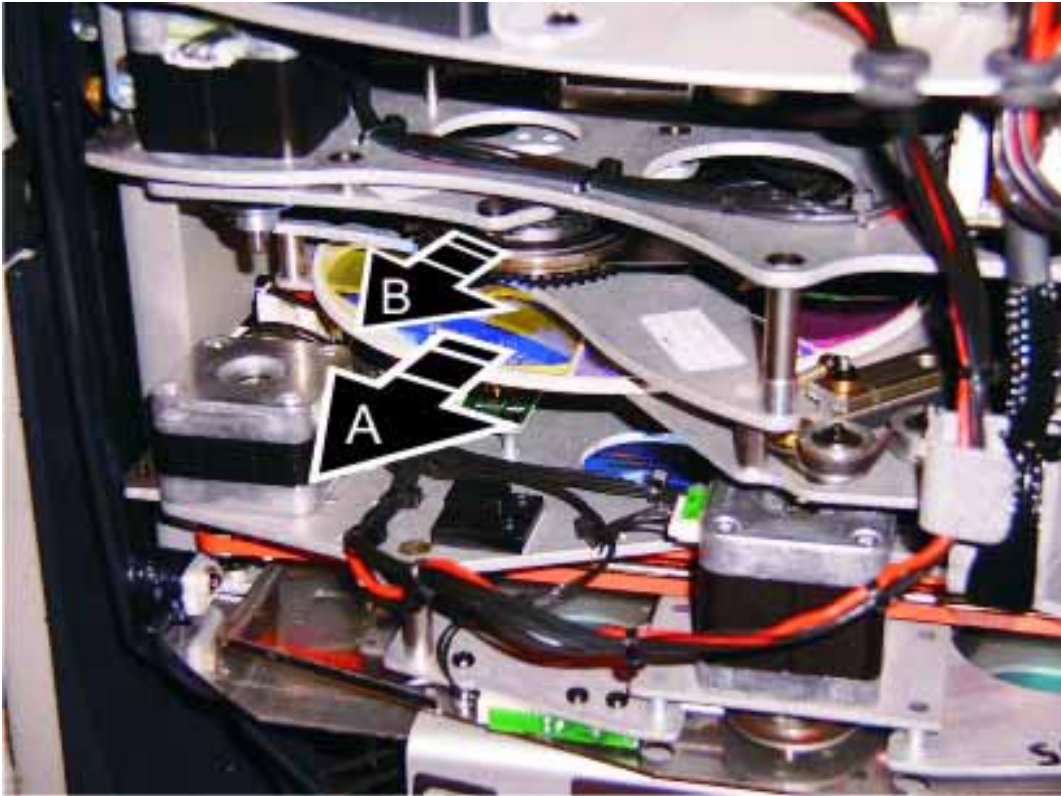
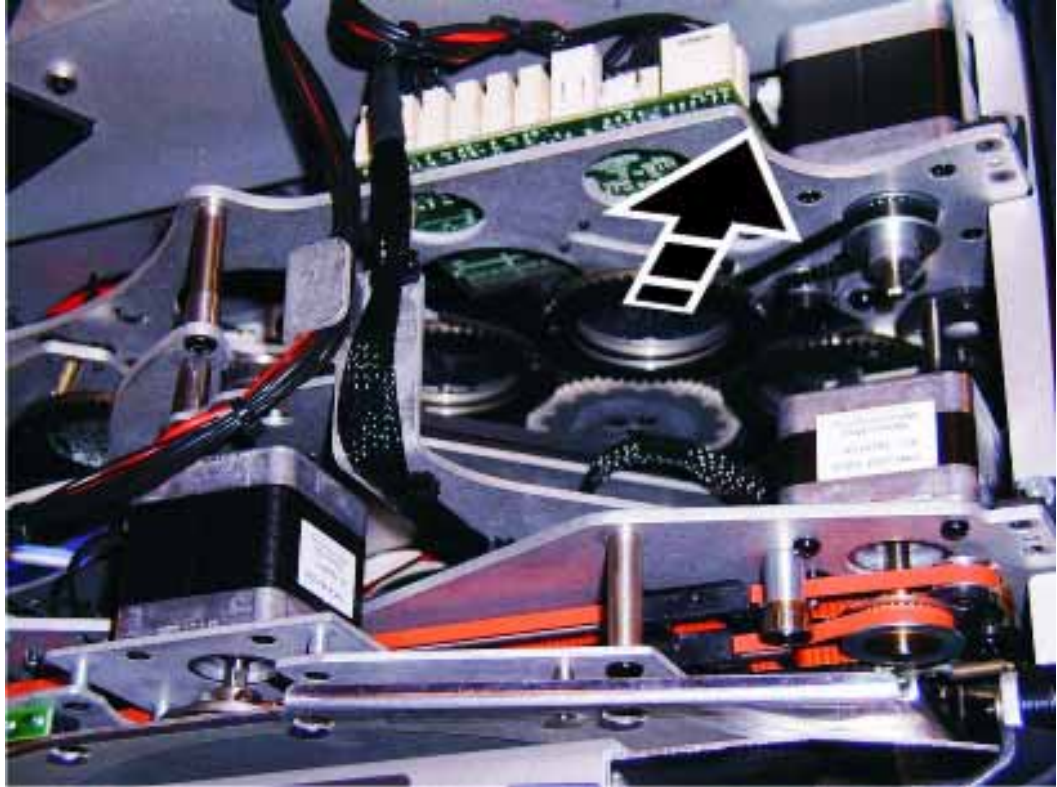

Figure 20: Color filter and gobo replacement
Figure 22: Gobo replacement
4. See **A** in Figure 20. Rotate the color wheel until the filter you want to change is accessible. Lift the filter away from the color wheel slightly to release it, then grasp it by the edges and remove. If your fingers are too large, protect the glass with a piece of paper that has been folded several times and grasp the filter with needle nose pliers.
2. See **B** in Figure 20 and see Figure 22 on page 32. Rotate the relevant gobo wheel until the gobo you want to replace is accessible.
8. Check that the goboholder is the right way up (see Figure 22), then work the rim of the gobo holder under both clips and snap the gobo holder back into position on the gobo wheel. If necessary, a small screwdriver or similar tool may be used to pry the clips away from the wheel.